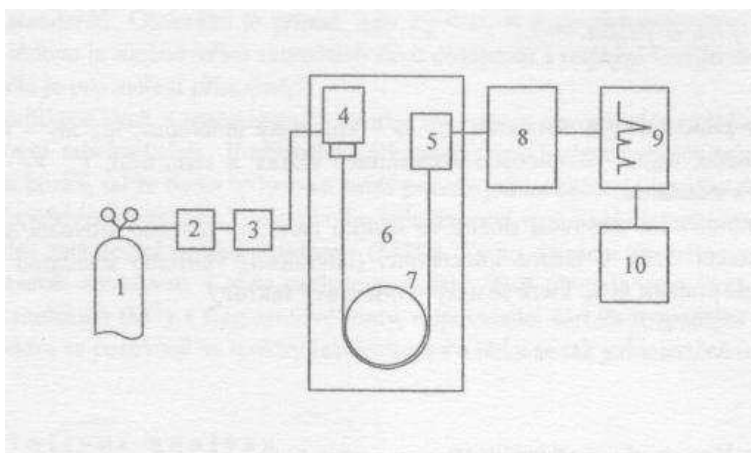

Fig. 2. Diagram of a gas chromatograph
Fig. 2 shows a diagram of a gas chromatograph. The carrier gas flows from a gas cylinder or a gas generator (1) through a proportionating valve. Flow and pressure are controlled by regulators (2 and 3) and the gas enters an injector (4), where the sample is injected by an